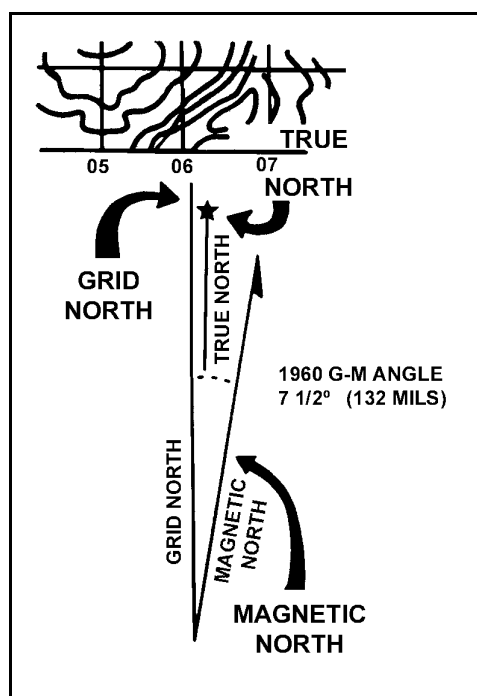

Figure 7-2. Declination diagram.
(7) *Direction entry (display-selectable)*. Select the sequence switch and the display shows: **E W GD: _ _**. This display is one example of a direction entry with an amount. East (E) or west (W) must be selected from the display before filling in the underlined blanks for grid declination.
(a) Locate the grid declination (GD) in the map sheet legend of the area of operations. Before entering the GD, round it off to the nearest 10 and express it in tenths—for example, the GD of 132 is 130; expressed in tenths is 13 (Figure 7-2).